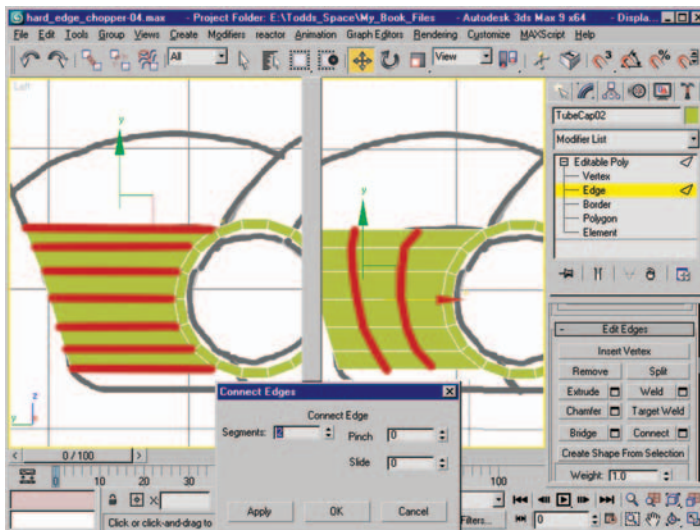

Figure 8.4 Edge selection before and after using Connect.
5. Select the seven edges shown in Figure 8.4 (left) and use the Connect settings to create two new rows of edges (Figure 8.4, right).